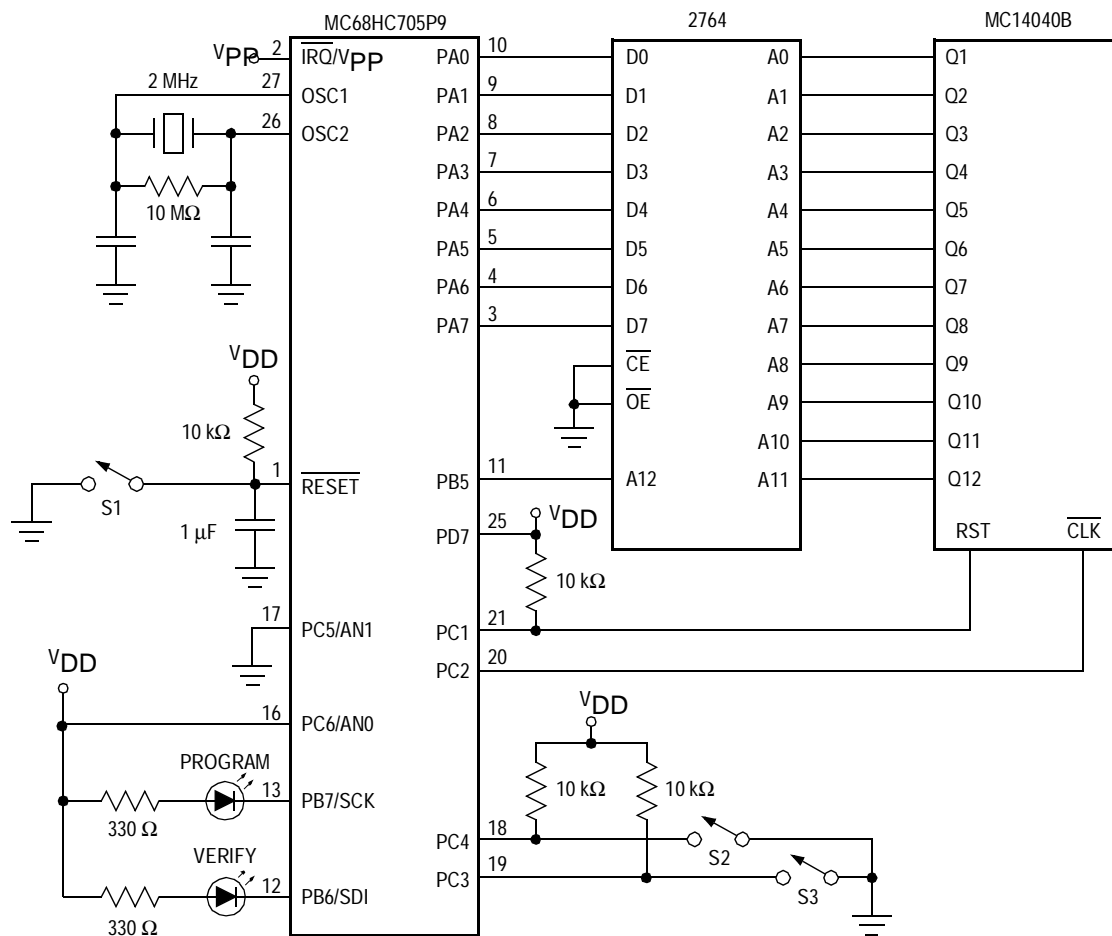

Figure 3-4. Bootloader Circuit
**Figure 3-4** shows the circuit for downloading to the on-chip EPROM/OTPROM from a 2764 EPROM. The bootloader circuit includes an external 12-bit counter to address the external EPROM. Operation is fastest when unused external EPROM addresses contain \$00. The bootloader function begins when a rising edge occurs on the  $\overline{\text{RESET}}$  pin while the  $V_{\text{PP}}$  voltage is on the  $\overline{\text{IRQ}}/V_{\text{PP}}$  pin, and the PD7/TCAP pin is at logic one.